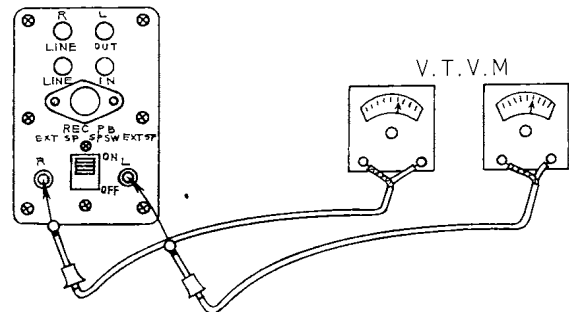

Fig. 10
#### 2) Adjustment of the recording level...Figs. 10, 11 and 12.
b) Place the SPEAKER switch of the set to ON position, and turn the volume control knob (VOLUME: L or R) completely to the right (clockwise) to gain maximum volume. Then connect the V. T. V. M. (vacuum tube voltmeter) to the speaker terminal as shown in Fig. 10. Adjust the output of the low-frequency oscillator so that the output voltage reaches 0.45V